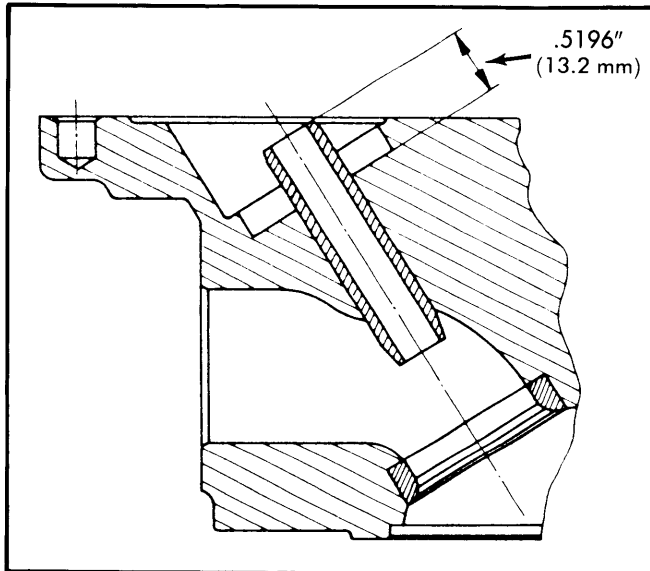

Fig. 5 Cross Sectional View of Valve Guide for Replacement
- 3) Press valve guide into head from camshaft side until a measurement of .5196" (13.2 mm) is reached. (See Fig. 5). Use suitable grease as a lubricant when pressing in valve guides. Bore or ream valve guide I.D. to .3543-.3549" (8.99-9.01 mm).